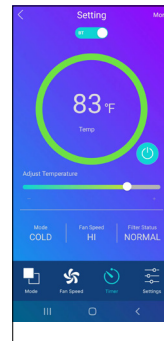

Fig. 3
**Step 6.** After connecting successfully, the “WIFI” light will stay on, and the app can be used to set cooling schedules, change cooling modes and more (fig. 3).